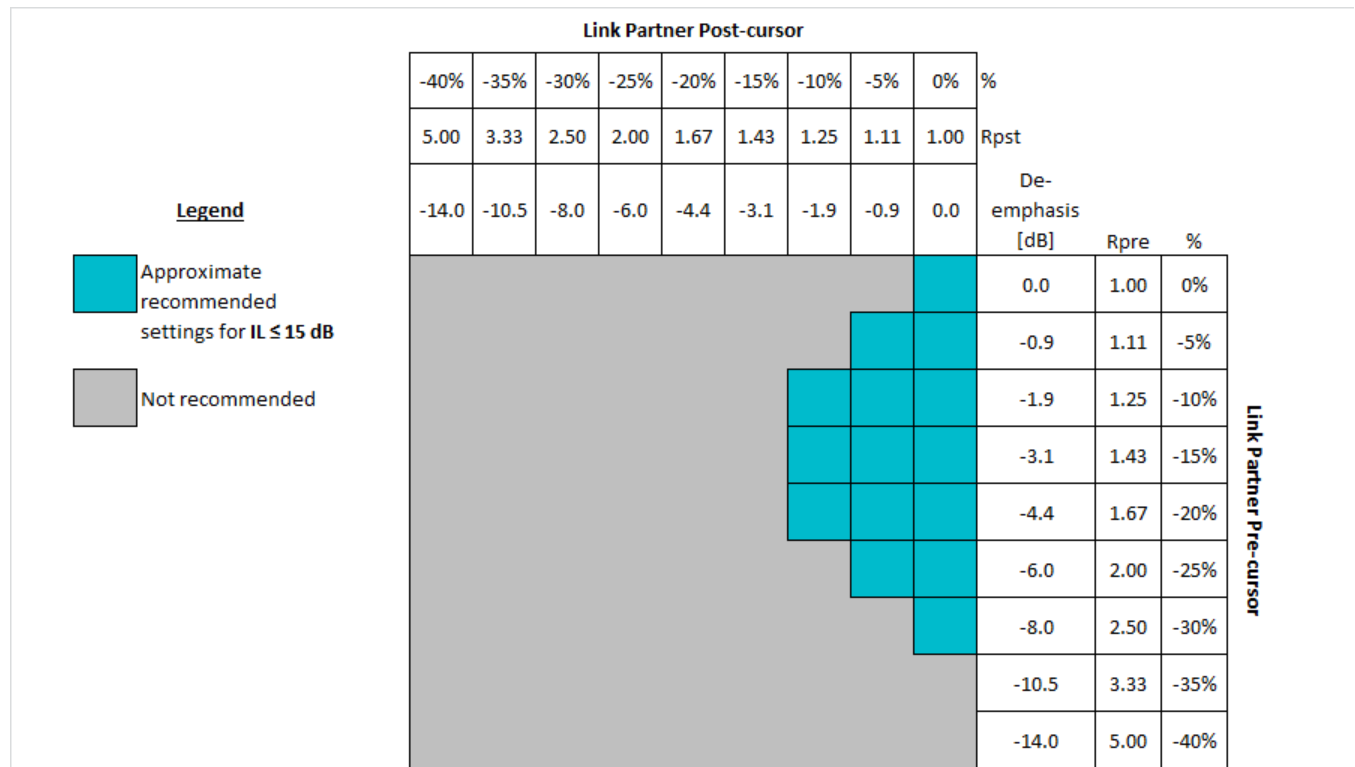
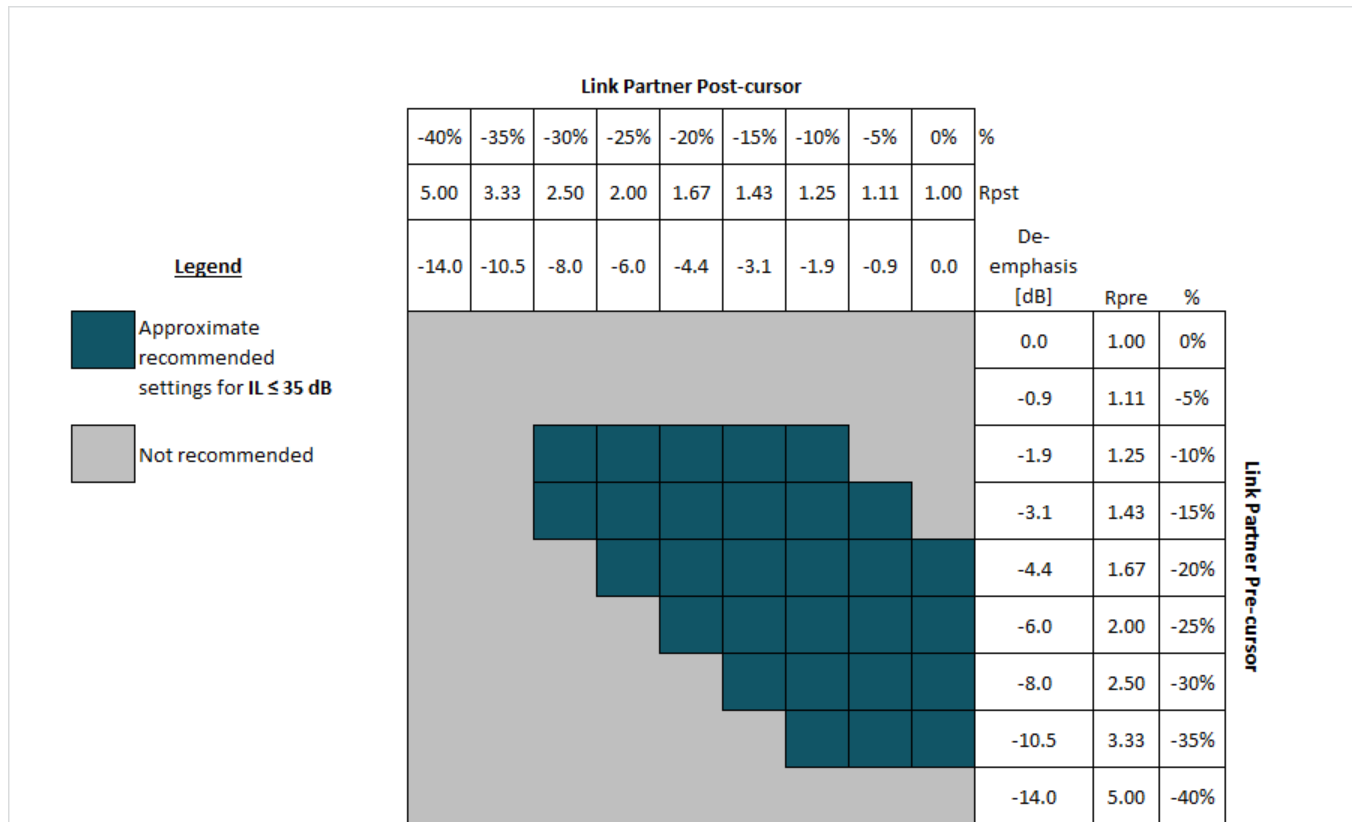

Figure 11. Guideline for Link Partner FIR Settings When IL ≤ 15 dB
Figure 13. Guideline for Link Partner FIR Settings When IL ≤ 35 dB
The recommended pre-cursor and post-cursor settings for a given channel will depend on the channel characteristics (mainly insertion loss) as well as the equalization capabilities of the downstream receiver. The DS250DF230 receiver, with its highly-capable CTLE and DFE, does not require a significant amount of pre- or post-cursor. The guidelines in Figure 11 through Figure 13 give general recommendations for pre- and post-cursor for different channel loss conditions. The insertion loss (IL) in these plots refers to the total loss between the link partner transmitter and the DS250DF230 receiver.